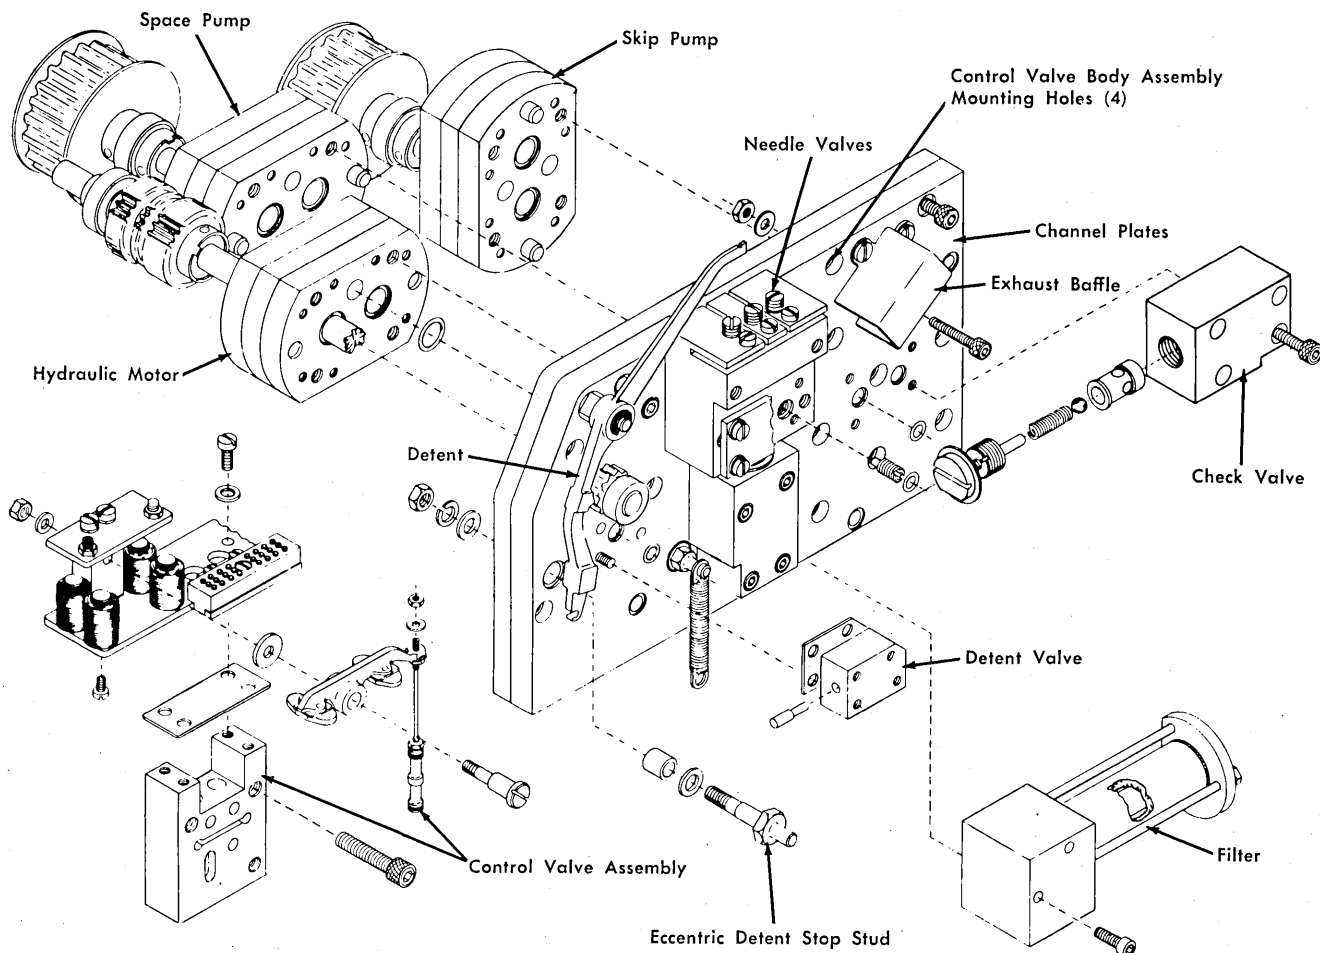

Figure 4-58. Hydraulic-Unit Drive Assembly
3. Remove the valve body assembly (Figure 4-58). Four screws hold it in place.
1. The channel plate assembly (Figure 4-58) should never be separated from the reservoir mounting (cover) plate except to replace a pump, motor, or detent block.